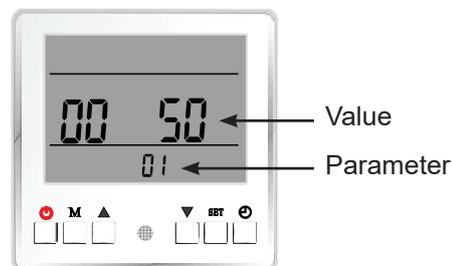

Figure 7-10 - Sensor and system informations menu
- 1.- With the appliance on, press the ▲ and ▼ buttons simultaneously for 5 seconds. The display will switch as in Figure 7-10;